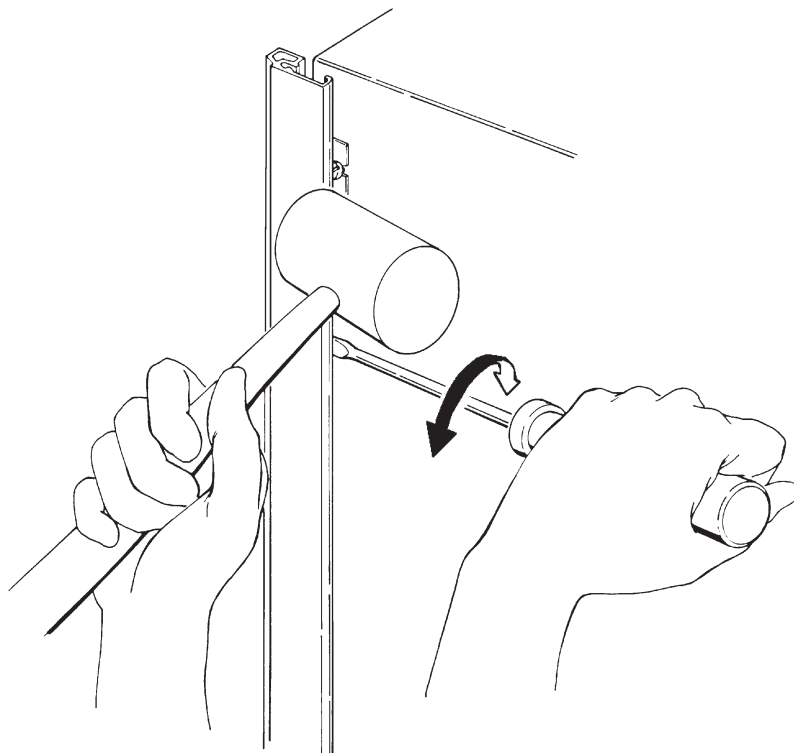

Figure 4-6. Door Side Trim Removal and Replacement
1. See figure 4-6. Starting at the top of the door, insert a straight slot screwdriver between the door frame and the door trim, and turn it ¼ turn.